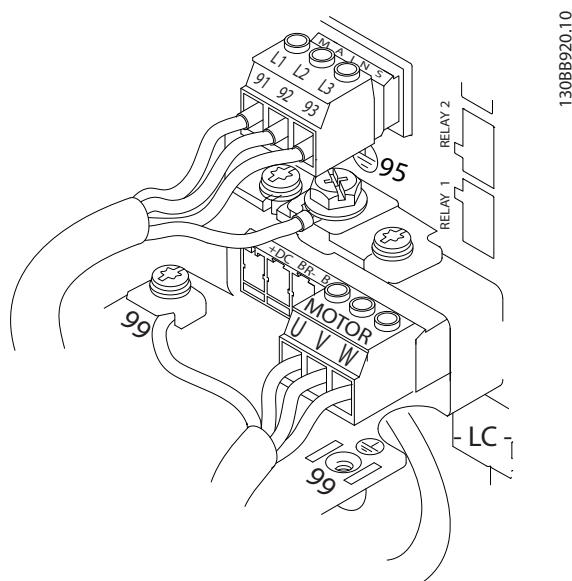

Figure 4.6 Example of Motor, Mains and Ground Wiring
1. Connect the 3-phase AC input power wiring to terminals L1, L2, and L3 (see *Figure 4.6*).